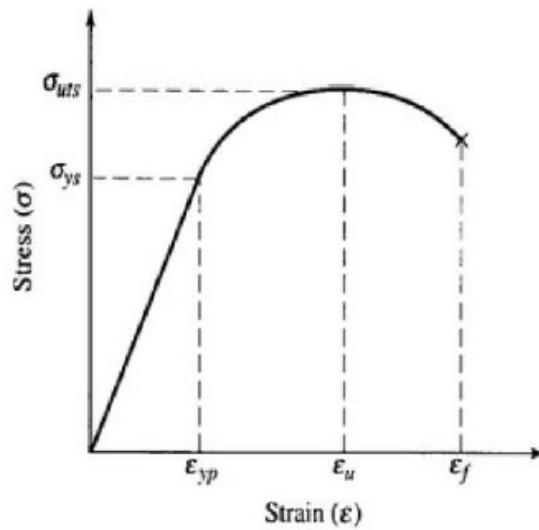

Fig. 7.113: Strain-Stress-Curve
- Young's modulus: The formulas shown above only work in the linear part of the *Strain-Stress-Curve*, which is shown in Fig. 7.113. In this area a constant factor between stress and strain exists.